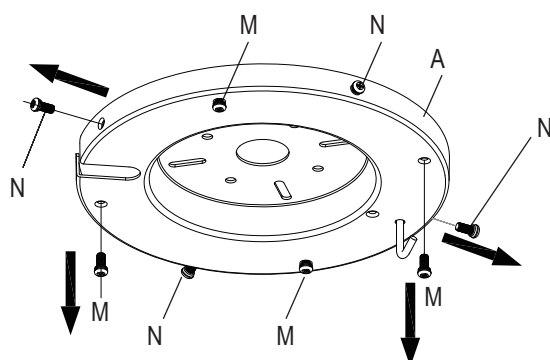

Figure 1
- There are 8 pre-installed screws (4 side-N; 4 bottom - M) on the mounting plate (A).
- Remove 2pcs opposite screws from the side and bottom of mounting plate(A). Figure 1.